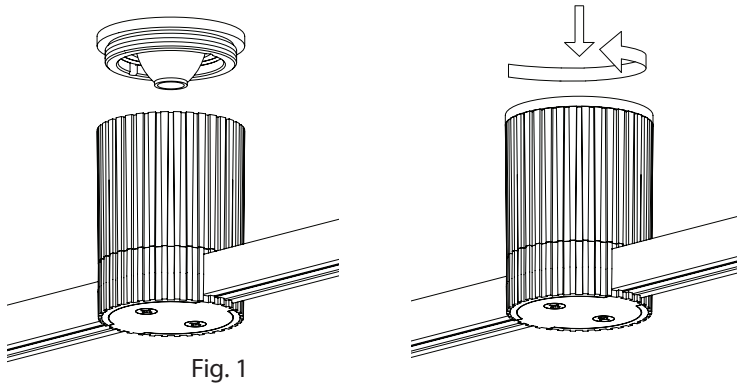

Fig. 1
1. Screw the Trim Ring into the Cylinder Light Engine. (Fig. 1)